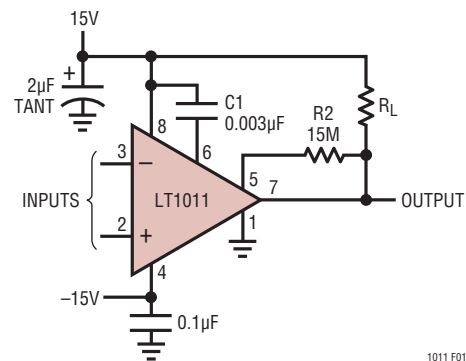

Figure 1. Comparator with Hysteresis
BALANCE (Pin 6): Balance Input. This input can be used to adjust the input voltage offset. See Offset Balancing circuit in the Typical Applications. This input can also be used to add DC hysteresis by connecting a resistor from this pin to the output. See Figure 1 for an example. If offset balancing or hysteresis is not used, the BALANCE pin should be connected to a $0.1\mu\text{F}$ capacitor to ground.
5. Use hysteresis. This consists of shifting the input offset voltage of the comparator when the output changes state. Hysteresis forces the comparator to move quickly through its linear region, eliminating oscillations by “overdriving” the comparator under all input conditions. Hysteresis may be either AC or DC. AC techniques do not shift the apparent offset voltage of the comparator, but require a *minimum* input signal slew rate to be effective. DC hysteresis works for all input slew rates, but creates a shift in offset voltage dependent on the previous condition of the input signal. The circuit shown in Figure 1 is an excellent compromise between AC and DC hysteresis.